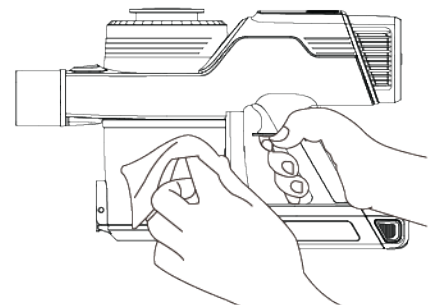

Figure 4
2. Wipe the Vacuum Body with a damp cloth to clean off dust and debris. (Figure 4)